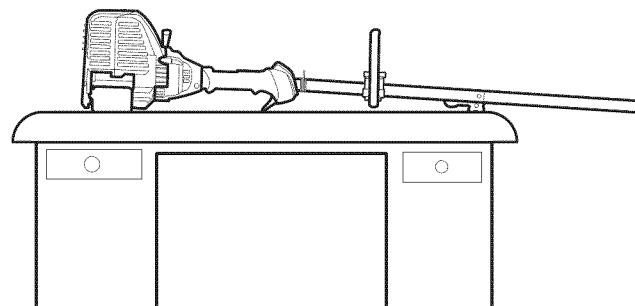

Fig. 24
2. Set the unit on a flat, level surface, such as a workbench or table. The cutting head shield should hang over the edge so that the engine is level (Fig. 24).